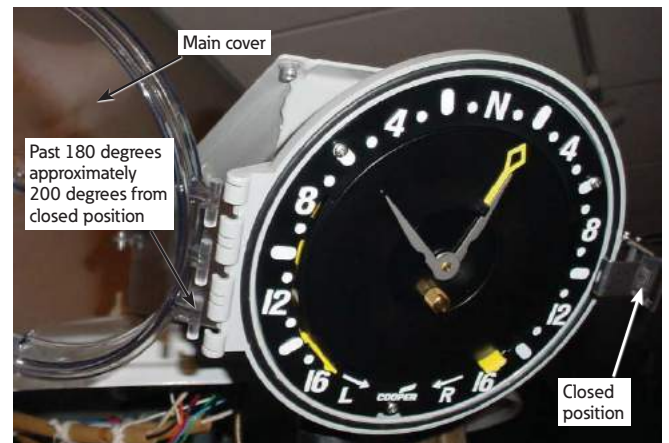

Figure 3. Main cover removal position
2. Swing open the cover all the way to the left side, past 180 degrees from the closed position, and pop the position indicator and main cover hinges apart. See Figure 3.